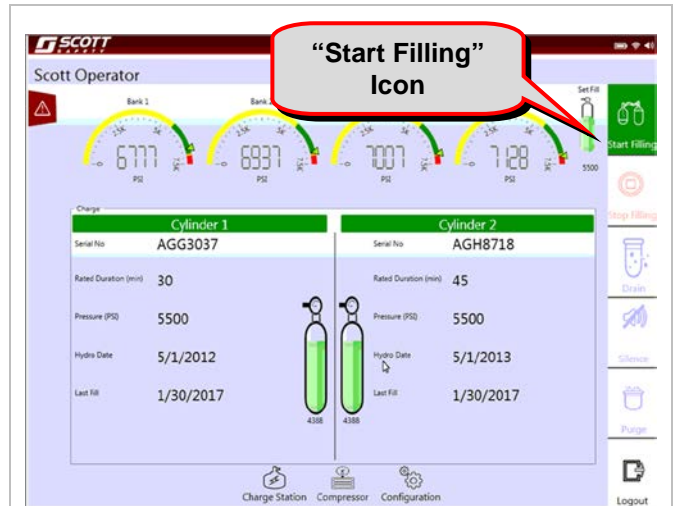

Figure 3.6-11: Start Filling
10. With the cylinders securely inside the enclosure, press the “START FILLING” Icon. See Figure 3.6-11.